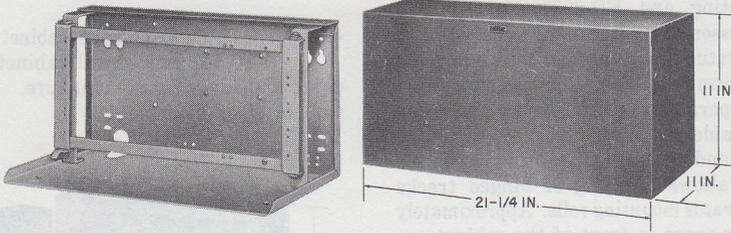

Fig. 15—4-Plate Cabinet per ED-91472-70 (MD)
4.06 The 4-plate equipment cabinet (MD) per ED-91472-70* (Fig. 15) is a metal cabinet with a hinged steel gate and removable metal cover. The cabinet is drilled for wall or floorstand mounting.